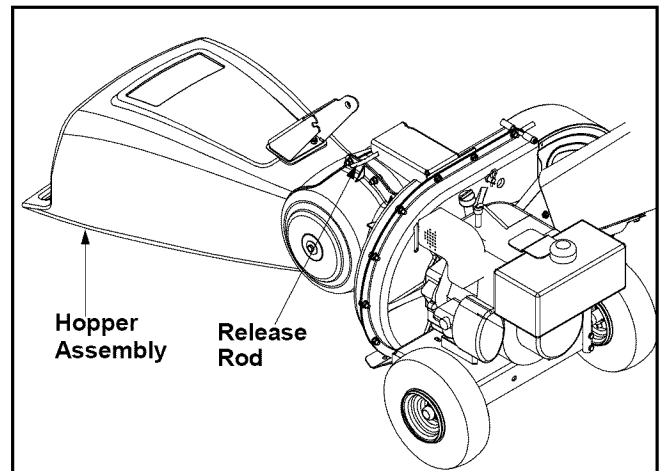

Figure 6
- With the other hand pull out on the release rod and lower the hopper assembly to the ground. See Figure 6.